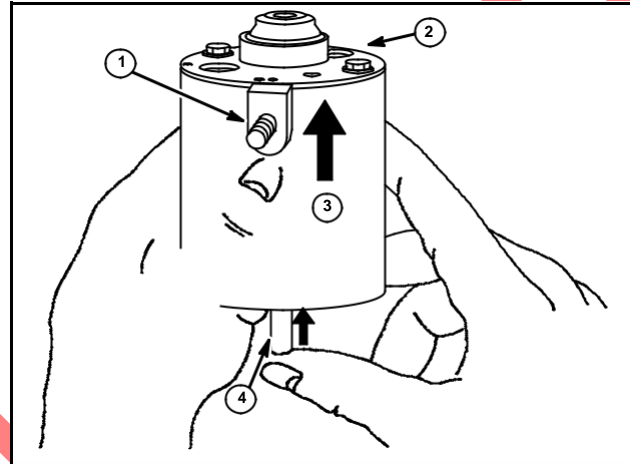

Fig. 35
6. Push motor armature out through bottom of starter housing (3), taking care to slide rubber mounted terminal (1) out of motor housing (3) along with end cap (2), Fig. 35. Armature shaft (4)